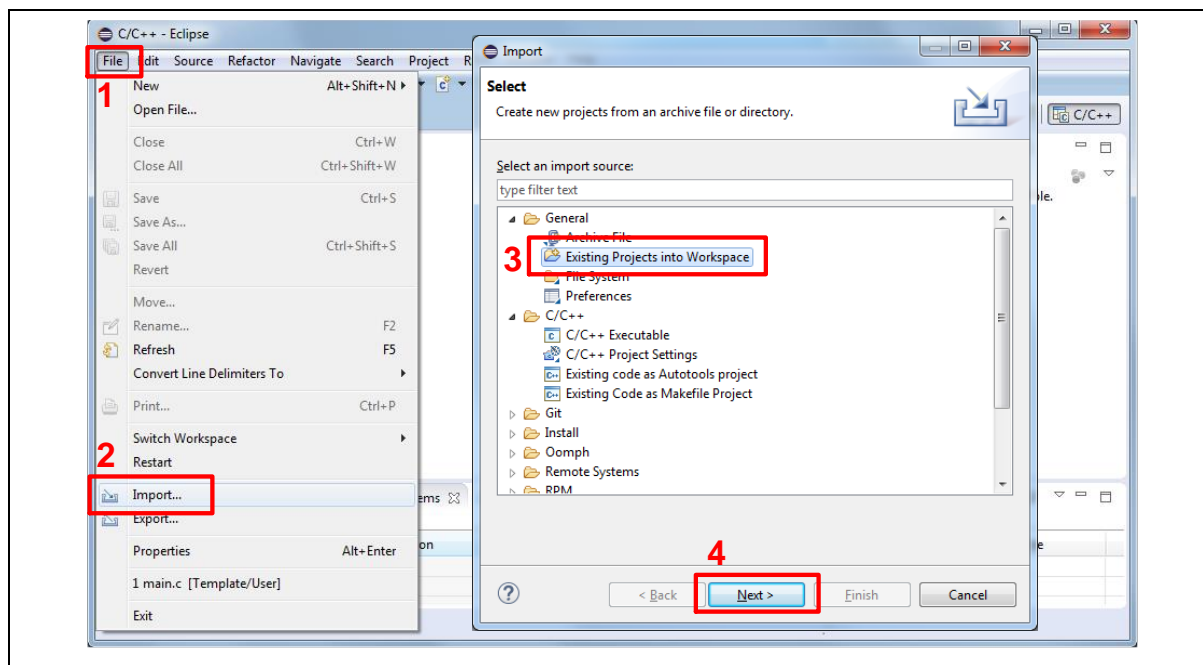
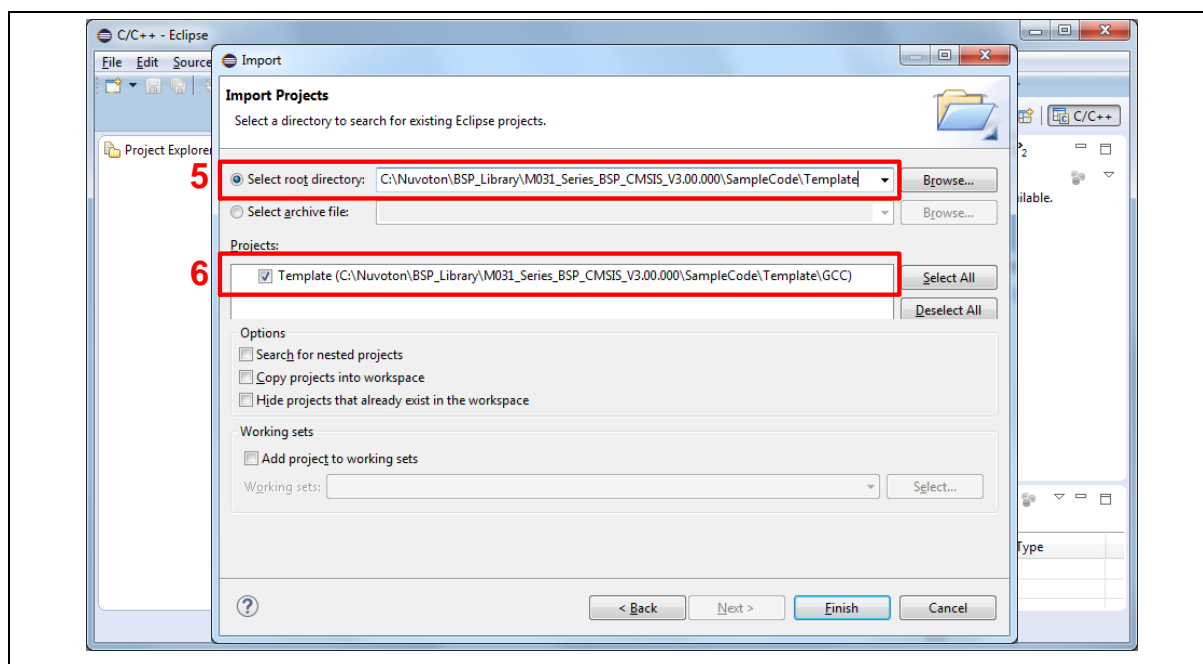

Figure 5.2-36 Import the Project in NuEclipse
Figure 5.2-37 Import Projects Windows
- (1) Install NuEclipse GCC, which does not require any driver installation.
- (2) Double-click NuEclipse.exe to open the toolchain.
- (3) Import the “Template” project by following the steps presented in Figure 5.2-36 and Figure 5.2-37.